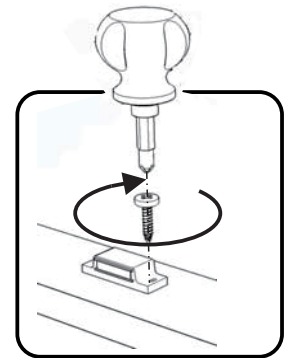

Figure 1
Attach Magnets to Top (A) by inserting Wood Screws for Magnet into pre-drilled holes. (See Figure 1)